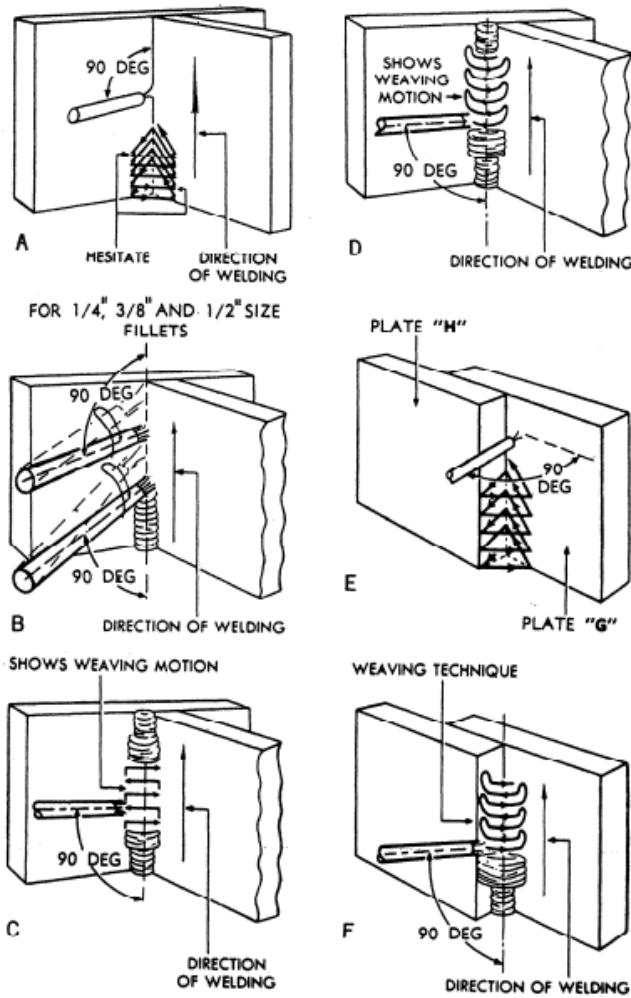

Figure 7-37.—Fillet welds in the vertical position.
**TEE JOINTS.**— To weld tee joints in the vertical position, start the joint at the bottom and weld upward. Move the electrode in a triangular weaving motion, as shown in figure 7-37, view A. A slight pause in the weave, at the points indicated, improves the sidewall penetration and provides good fusion at the root of the joint.
When the weld metal overheats, you should quickly shift the electrode away from the crater without breaking the arc, as shown in figure 7-37, view B. This permits the molten metal to solidify without running downward. Return the electrode immediately to the crater of the weld in order to maintain the desired size of the weld.
When more than one pass is necessary to make a tee weld, you may use either of the weaving motions shown in figure 7-37, views C and D. A slight pause at the end of the weave will ensure fusion without undercutting the edges of the plates.
**LAP JOINTS.**— To make welds on lap joints in the vertical position, you should move the electrode in a triangular weaving motion, as shown in figure 7-37, view E. Use the same procedure, as outlined above for the tee joint, except direct the electrode more toward the vertical plate marked "G." Hold the arc short, and pause slightly at the surface of plate G. Try not to undercut either of the plates or to allow the molten metal to overlap at the edges of the weave.
Lap joints on heavier plate may require more than one bead. If it does, clean the initial bead thoroughly and place all subsequent beads as shown in figure 7-37, view F. The precautions to ensure good fusion and uniform weld deposits that was previously outlined for tee joints also apply to lap joints.